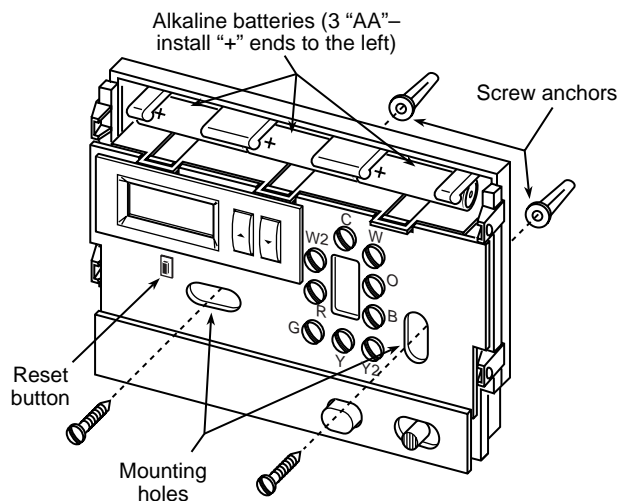

Figure 2. Thermostat base
5. Fasten the base loosely to the wall, as shown in fig. 2, using two mounting screws. Place a level against the bottom of the base, adjust until level, and then tighten the screws. (Leveling is for appearance only and will not affect thermostat operation.) If you are using existing mounting holes, or if the holes drilled are too large and do not allow you to tighten the base snugly, use plastic screw anchors to secure the base.
If your thermostat's display is frozen or displaying incorrectly, the thermostat may have been affected by static discharge or voltage variations. If this happens, press the RESET button (see fig. 2, page 2 for the location of the button). If pressing the RESET button does not correct the problem, contact a qualified service technician.